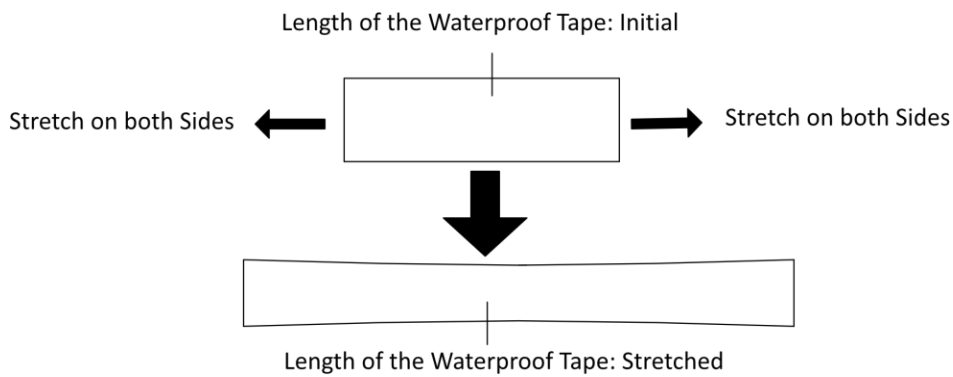

Figure 2-14 Stretch Waterproof Tape
Step 2 Stretch the waterproof tape to both ends to about 2 times the initial length, as shown in in Figure 2-14.